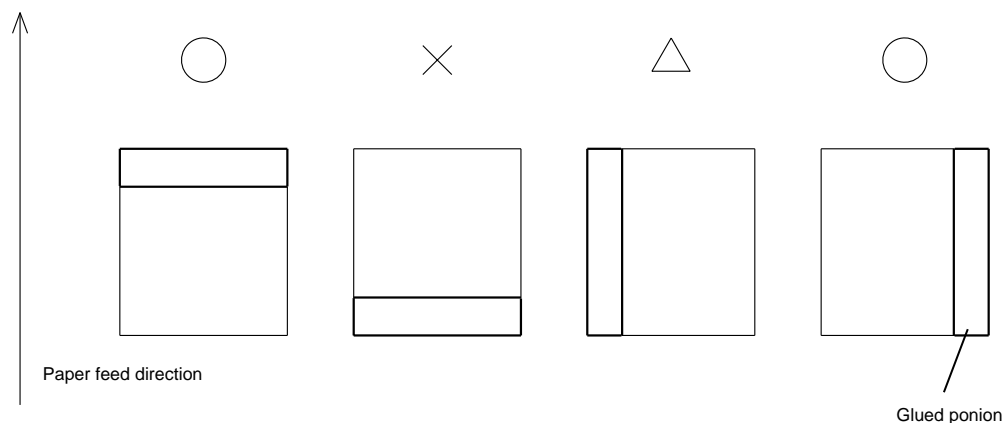

Figure 1.1.2 Slip Paper Glued Area
- There must be no glue on the bottom edge of slip paper. Choose slip paper carefully when the glue is on the right or top edge, since paper feeding and insertion are affected by gluing conditions (e.g., glue quality, method, and length) and glue location (refer to Figure 1.1.2). Be especially careful when slip paper is wide and has the glue on the left edge, since skew may occur.